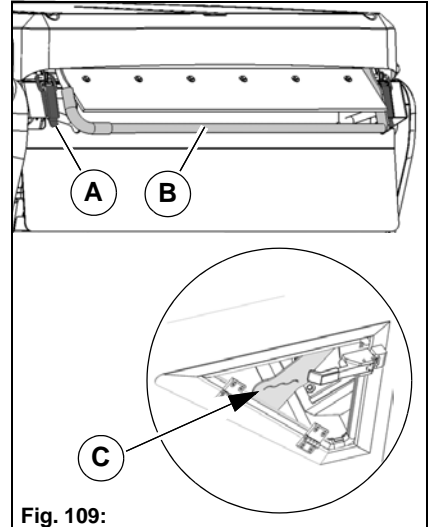

Fig. 109:
2. Open the lock **Fig. 109-A** of the dirt hopper.
3. Adjust the rear flap with the lever **Fig. 109-B**.
5. Fill the dirt hopper up to the mark of the plate **Fig. 109-C**. Filling volume for circulating water approx. 180 litres. After filling, check the function of the supply to the suction mouth.